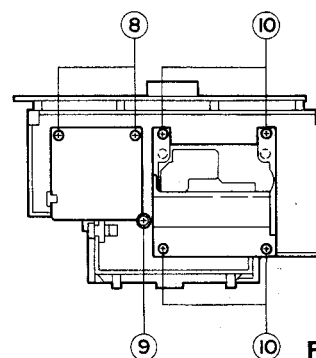

Fig. 2-7
■ **Disassembly of CD unit** (Fig. 2-7)
2. Remove three screws (8) and (9) retaining the CD amp board assembly.
3. Remove four screws (10) retaining the CD mechanism.